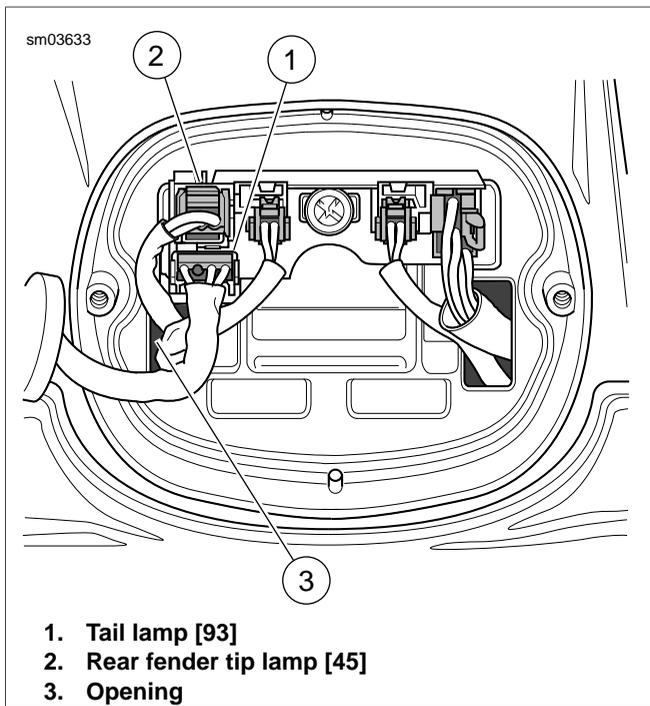

Figure 8-43. Depress Button to Release Socket from Pin Housing
2. Disconnect tail lamp connector [93], 4-place Multilock. Set tail lamp assembly aside. See Figure 8-43.
9. To install tail lamp assembly, orient 4-place Multilock socket so that the release button is at the bottom and insert into pin housing until it clicks. To avoid stressing wires, verify that tail lamp conduit is positioned on the outboard side of the rear fender tip lamp and left turn signal lamp conduit as shown in Figure 8-43.